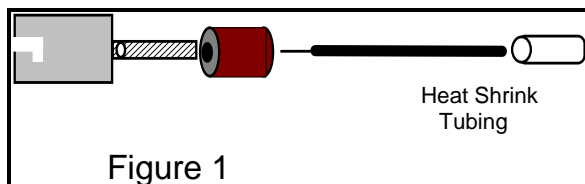
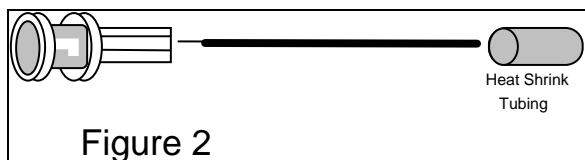

Figure 1
Figure 2
3. Using a BNC Binding Post Connector (Fig 1) or a BNC Screw-On Coaxial Connector (Fig 2) Insert the wire into the center conductor position and solder if necessary.